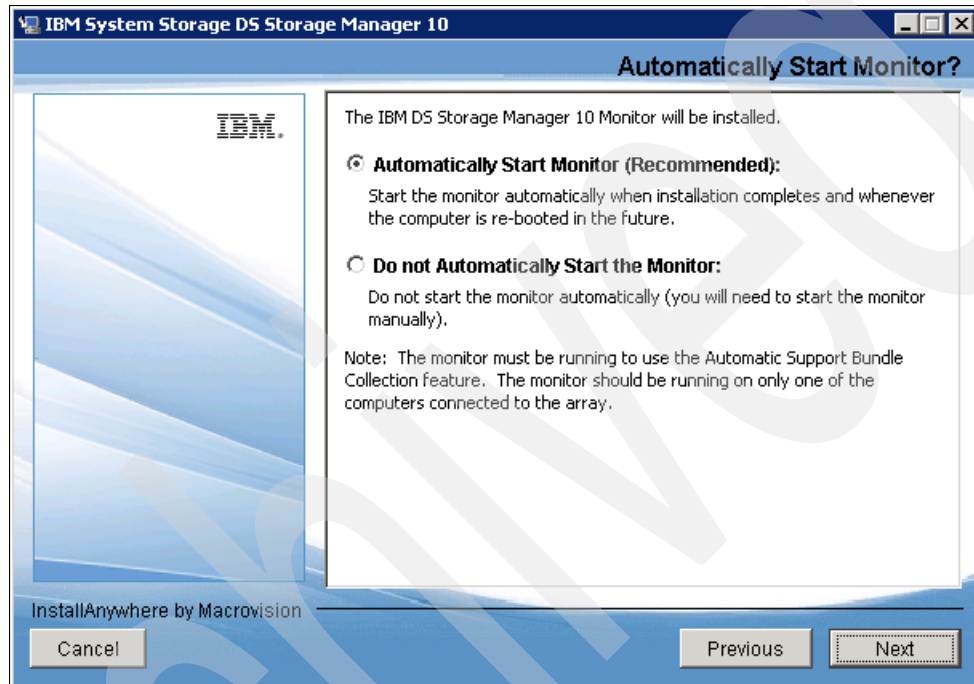

Figure 4-20 InstallAnywhere: Automatically Start Monitor
5. The next installation window asks you whether you want to automatically start the Storage Manager Event Monitor, as shown in Figure 4-20. This depends on your particular management setup. In case there are several management machines, the Event Monitor should only run on one. If you want to use the Event Monitor with SNMP, you have to install the Microsoft SNMP service first, because the Event Monitor uses its functionality.